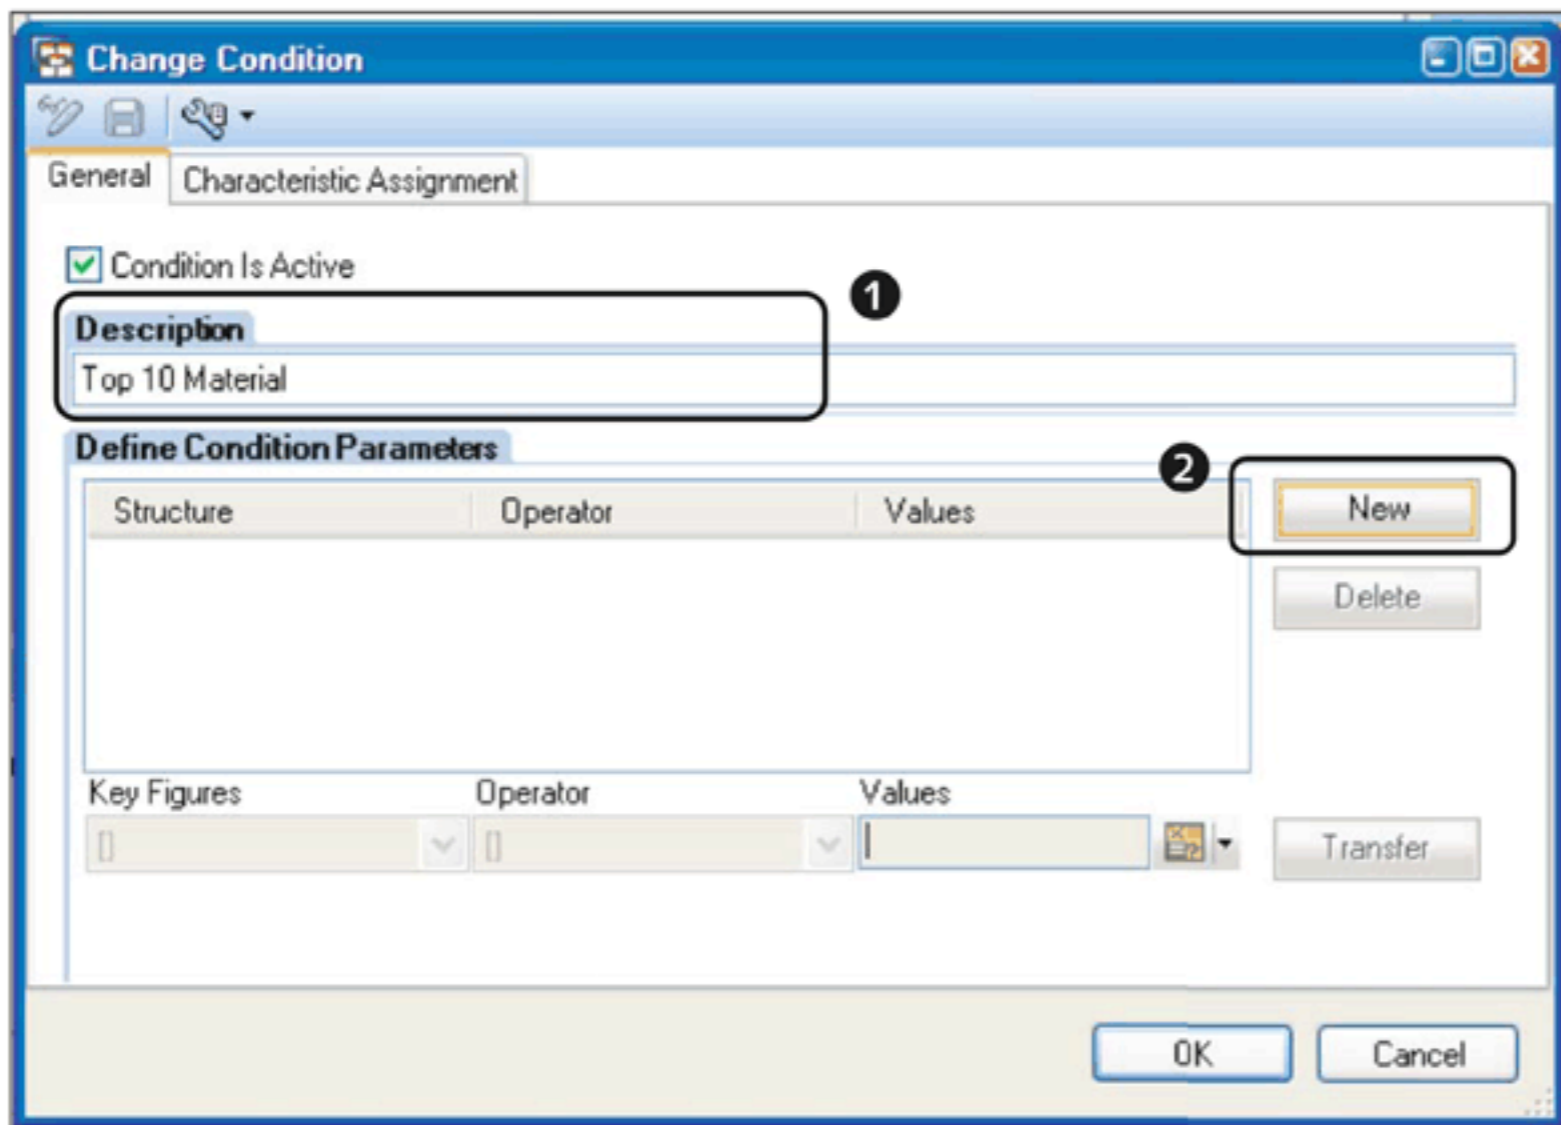

Figure 9.81 Change Condition
The CHANGE CONDITION screen appears (see Figure 9.81). The condition defined is applied only if the **CONDITION IS ACTIVE** checkbox shown in Figure 9.81 is selected. You can now maintain the **DESCRIPTION** for the condition (1 of Figure 9.81). Click on the **NEW** button (2) to create a new condition parameter, where you can define the logic for the condition.